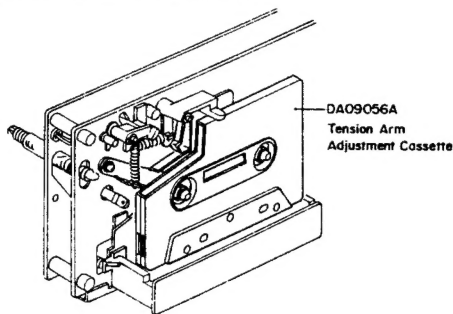
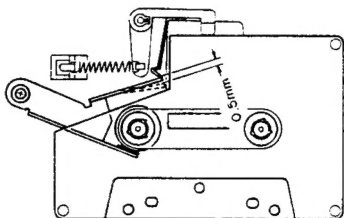

Fig. 2.10
Fig. 2.11
Refer to Figs. 2.10 — 2.13.
- (1) Load a Tension Arm Adjustment Cassette (DA09056A) in the cassette deck referring to Fig. 2.10.
- (2) Set the cassette deck in Play mode.
- (3) Bend the Back Tension Arm with pliers so that the gap between the Cassette Holding Spring assembled on the Head Base Ass'y and the Back Tension Arm becomes 0.5 mm as shown in Fig. 2.11. Do not bend the top of the Back Tension Arm.